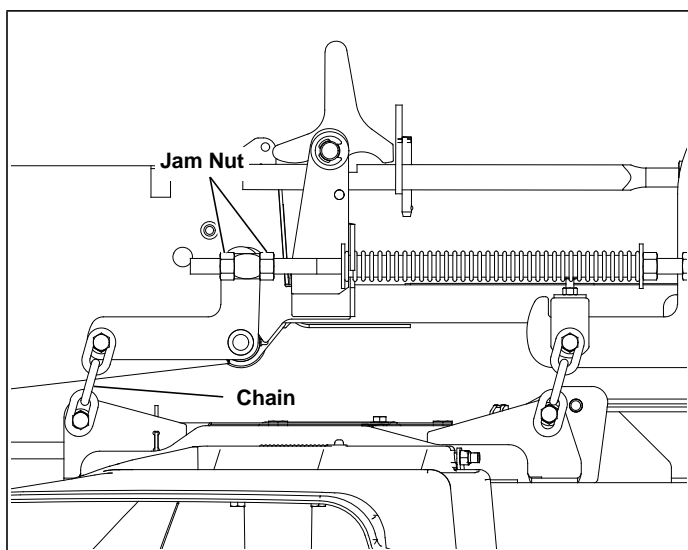

Figure 6-5
21. Make sure that there is still slack in the chain. If not, loosen the two nuts on the block holding the threaded rod until there is slack in the deck lift chain. Figure 6-5